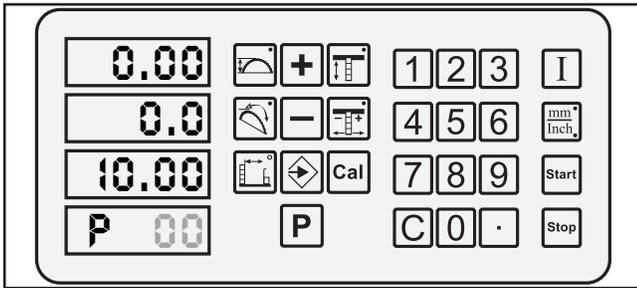

Figure 19. "P" displayed on control panel to indicate system is ready to recall saved settings.
1. Press and hold the pre-saved memory  key until "P" displays in the blade speed display and the memory numbers flash, as shown in **Figure 19**.